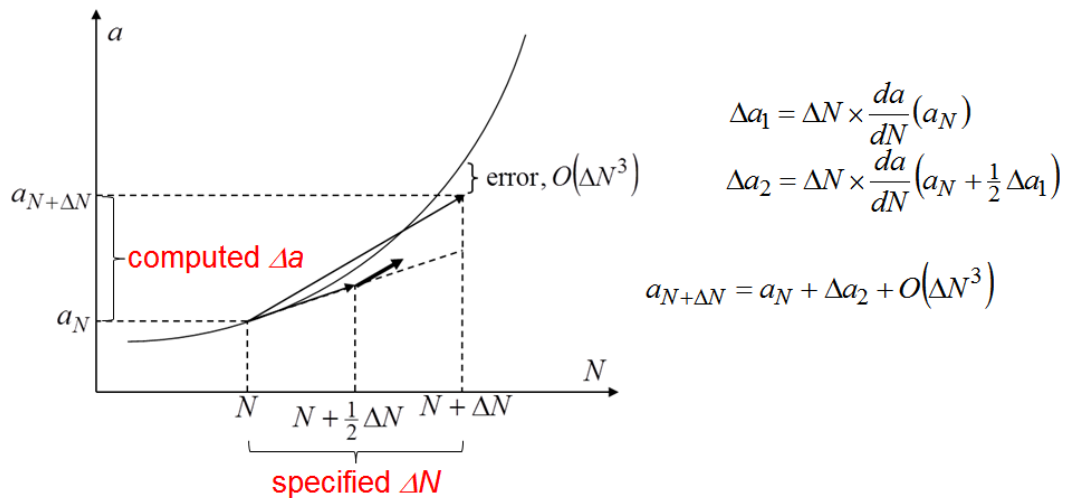

Figure 6.5.79 Second order Runge-Kutta integration.
The user can choose between Runge-Kutta (RK) and Cycle-by-cycle (CxC) integration to compute life or cycles. A 2nd order RK approach is implemented, Fig 6.5.79.